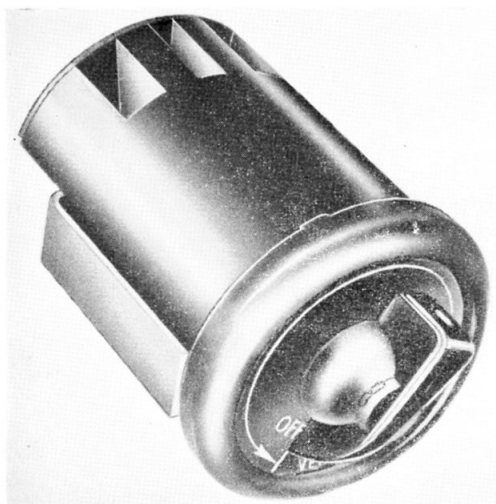

Fig. 1. Time switch, Type PTA/HAW
1. The time switch, Type PTA/HAW (fig.1) is a clockwork-driven switch in which the action of setting the pointer winds the spring and starts the timing period of 8 minutes. ◀ It differs from the earlier Type PTA/HA (Stores Ref. 5CW/4733), which it supersedes, in having redesigned and more robust stop pins. ▶